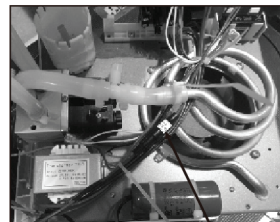

Figure 12
- ▶ Fuse tube for net power (Figure 12)